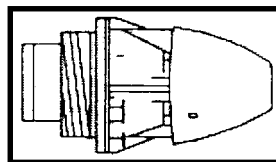

Figure 7-17. M734 multioption fuze.
c. M734 Multioption Fuze (Figure 7-17).
- (1) Functions: Proximity or impact.
- (2) Settings: PRX, NSB, IMP, or DLY.
- (3) Remarks: The fuze can be set by hand.